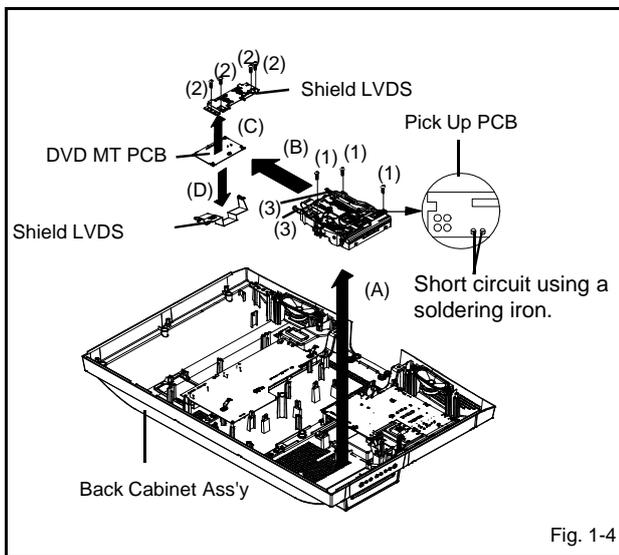

Fig. 1-4
### 1-4: DVD MT PCB and DVD DECK (Refer to Fig. 1-4)
2. Short circuit the position shown in Fig. 1-4 using a soldering iron. If you remove the DVD Deck with no soldering, the Laser may be damaged.
4. Remove the 3 screws (1).
5. Remove the DVD DECK Ass'y in the direction of arrow (A).
6. Remove the 4 screws (2).
7. Unlock the 2 supports (3).
8. Remove the DVD MT PCB in the direction of arrow (B).
9. Remove the Shield LVDS in the direction of arrow (C).
10. Remove the Shield LVDS Bottom in the direction of arrow (D).